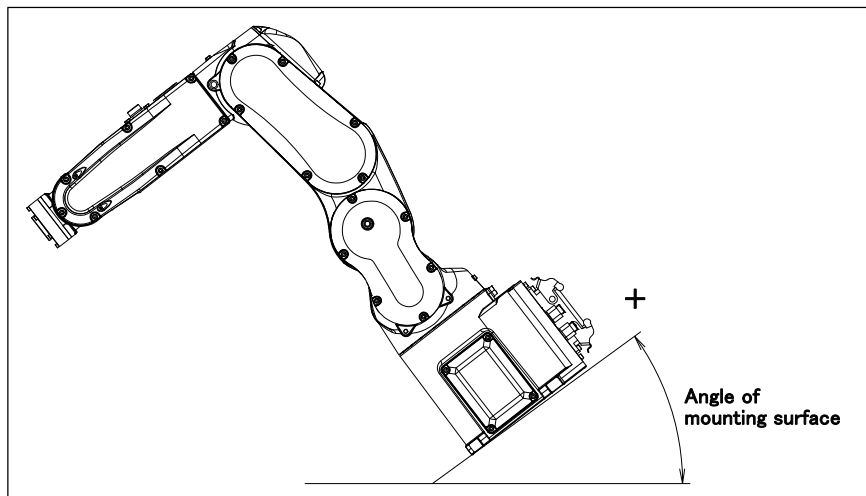

Fig. 1.2.1 (a) Robot mounting angle
- 6 Input the mount angle referring to Fig. 1.2.1 (a). 4SH Downward wrist zero specification is restricted to floor mount and upside-down mount.